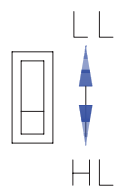

Figure 3-1
- The failsafe is field selectable by changing slide switch S1 on the power side of the unit. See Figure 3-1.